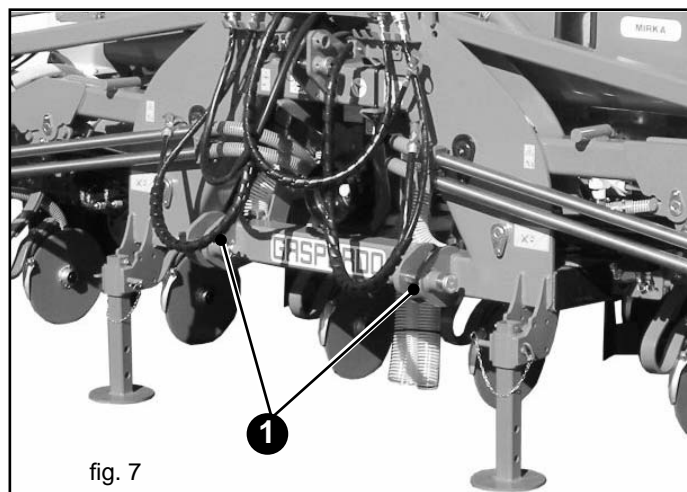

fig. 7
- 1) Hook the lifter bars onto the pins provided (1, Fig. 7) Block with the snap split pins. Hook the chains to the lifting bars